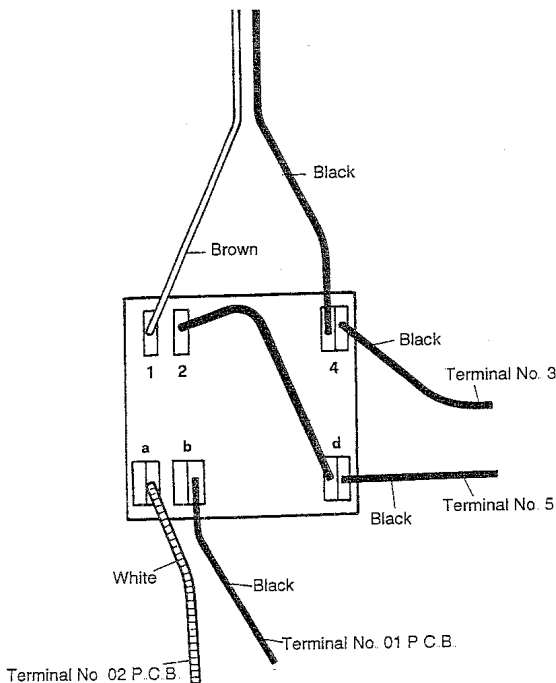

Fig 42
- Re-assemble in reverse order (refer to fig. 42 for wiring). Check the operation of the new switch.